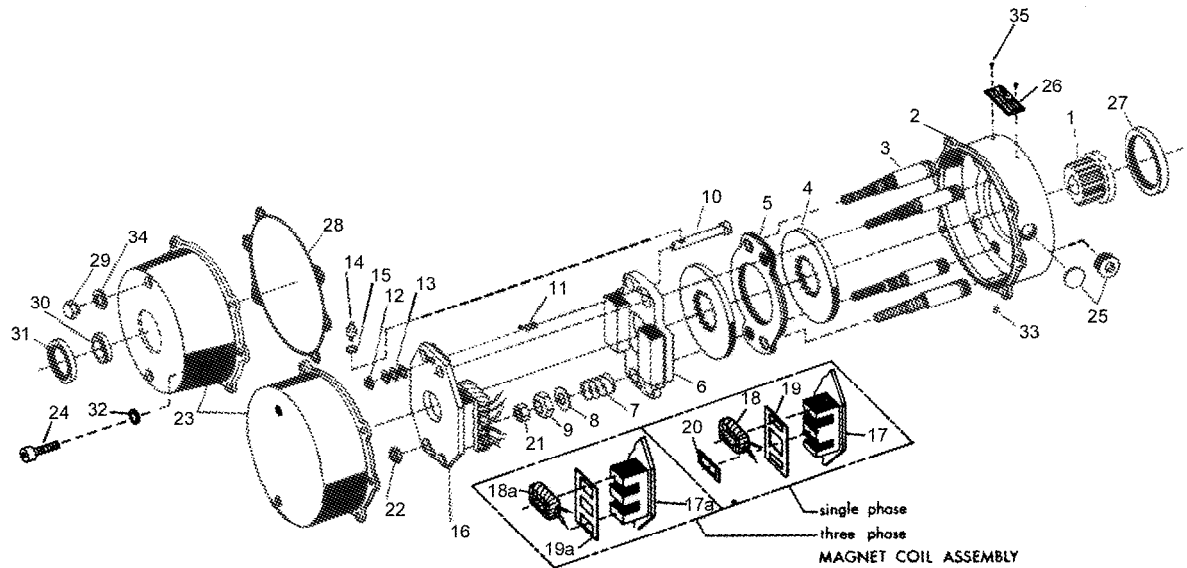

Figure 3. Exploded View of Brake
(See Figures 3, 5 & 6, Tables 1, 2 & 3)
(See Figure 3)
(See Figures 3, 5 & 6)
(See Figures 3, 5 & 6, Tables 2 or 3)
When assembling a standard manual release mechanism (Figure 3), add only enough shim washers (13) to obtain proper release action. Too many shim washers will prevent automatic reset when electrical power is applied. Too few washers will prevent the motor shaft from
(See Figures 3 & 4)